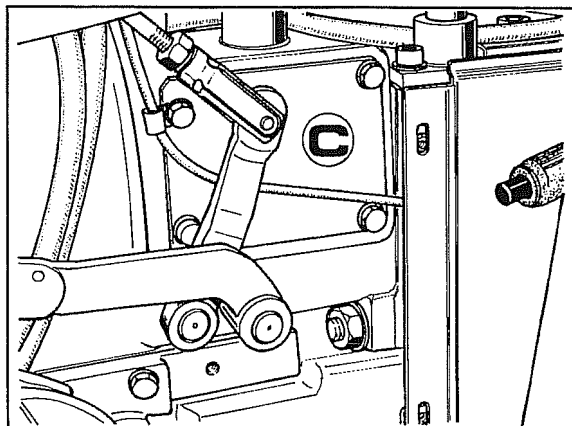

Fig. 2
- 2 Remove cover **C** on the clutch bell and the one on the opposite side as shown in Fig. 2.